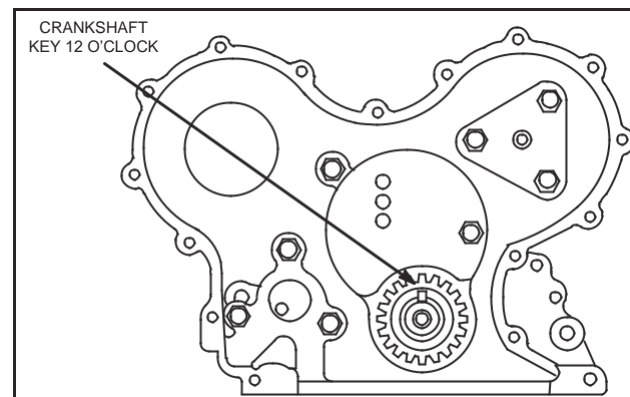

Fig. 13 – Rotate Crankshaft
4. Rotate crankshaft so that crankshaft key is at 12 o'clock position as shown in Fig. 13.